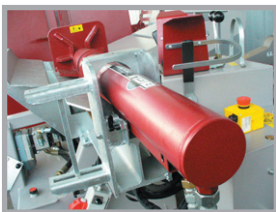

Fig. 5
- Manually muscle the ram into transport position (see Fig. 5)
- Secure the ram using the lock bolt (6) and install the stop plate (8)